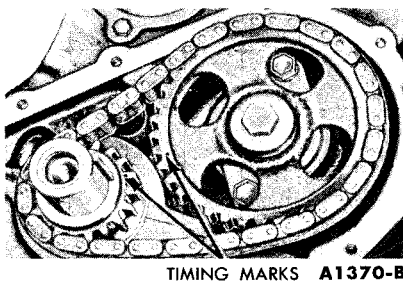

FIG. 51—Aligning Timing Marks
7. Crank the engine until the timing marks are aligned as shown in Fig. 51. Remove the camshaft sprocket retaining bolt and washer. Slide both sprockets and timing chain forward and remove them as an assembly (Fig. 52).
1. Position the sprockets and timing chain on the camshaft and crankshaft. Be sure the timing marks on the sprockets and chain are positioned as shown in Fig. 51. Install the camshaft sprocket cap screw and washer. Install the oil slinger so that the tim-